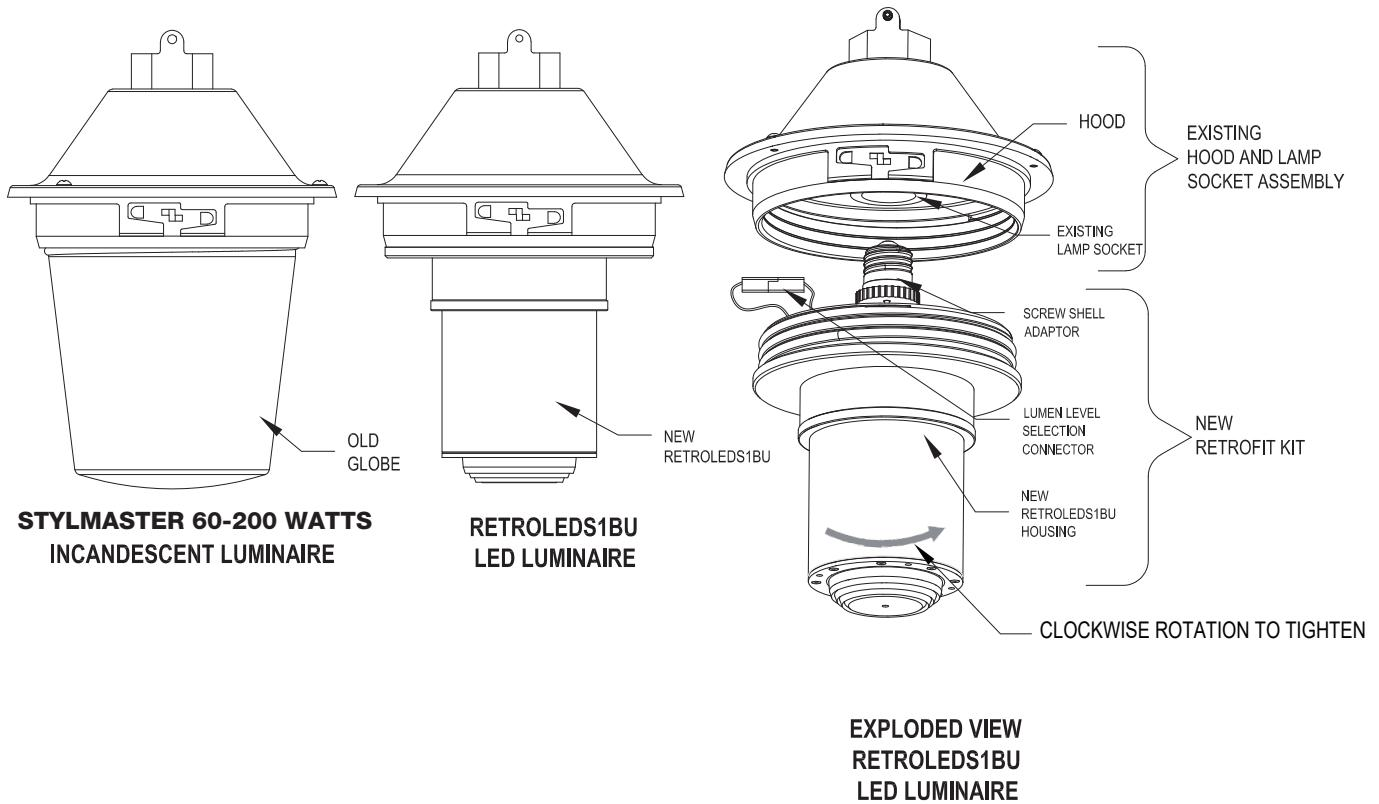

FIGURE 10: STYLMASTER 60-200 WATTS INCANDESCENT LUMINAIRE AS RETROLED1BU LED LUMINAIRE
2. Remove the old globe, guard, reflector, and incandescent bulb and dispose/recycle in accordance with local requirements. [See Figure 10 – Stylmaster 60-200 Watts incandescent luminaire as RETROLEDS1BU LED luminaire.]
[See Figure 10 – Stylmaster 60-200 Watts incandescent luminaire as RETROLEDS1BU LED luminaire.]